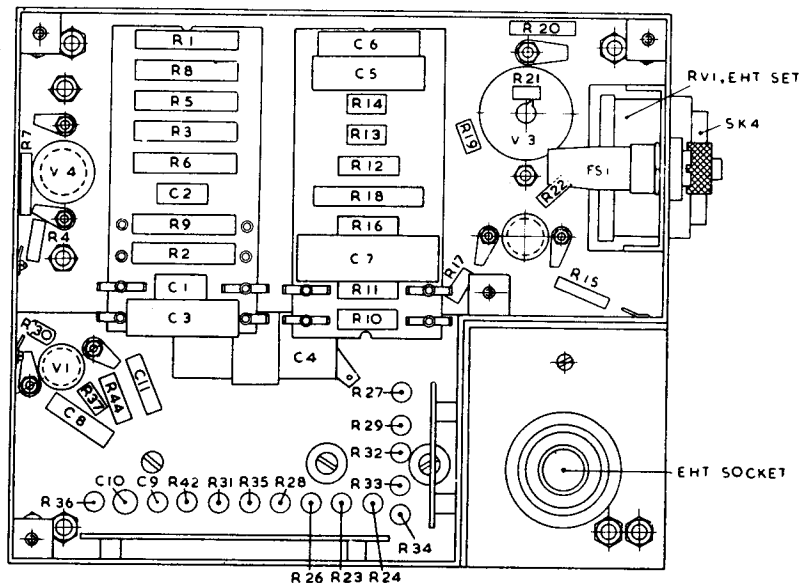

Fig. 6. Power unit (EHT) Type 898—under-chassis layout
19. Fig. 6 is an under-chassis view of the power unit annotated to show the location of the replaceable components. It should be used in conjunction with the Table of components which follows.